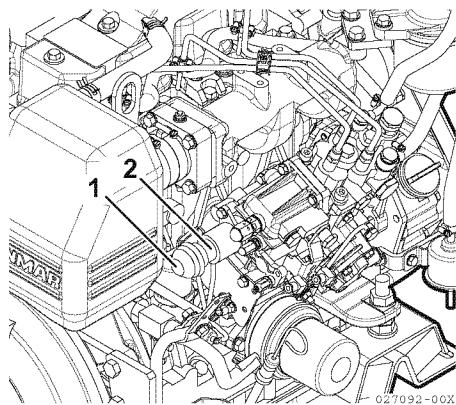

Figure 20
- 2- 3JH5E / 3JH5AE / 4JH5E models: Operate the starter while pushing in the emergency stop button (**Figure 20, (1)**) on the back of the fuel pump. This stops the fuel supply.